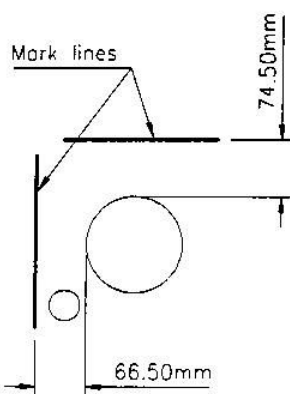

Fig. 9
11. On the outside wall measure and mark two guide lines as shown in Fig. 9 to assist in locating the wall plate centrally within the connecting duct.